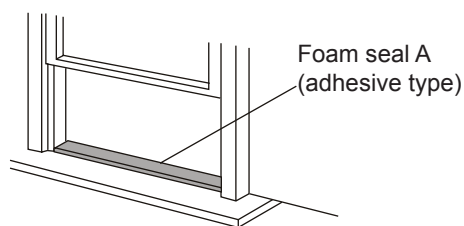

Fig.8
1. Cut the foam seal (adhesive type) to the proper length and attach it to the window sill. Fig.8